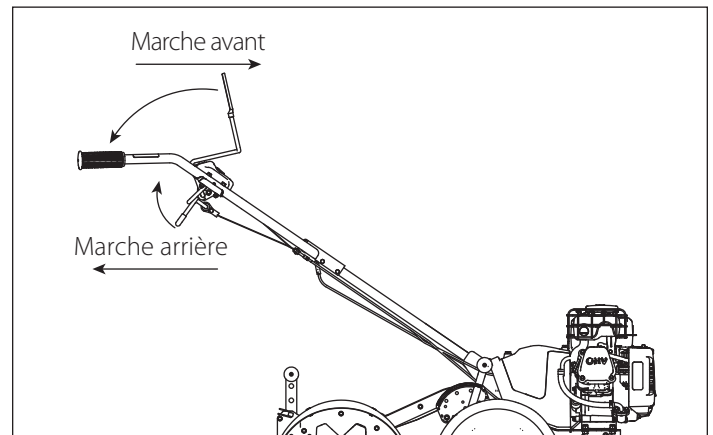

Figure 15
**LEVIER DE COMMANDE D'ENTRAÎNEMENT :** VOIR FIGURE 15